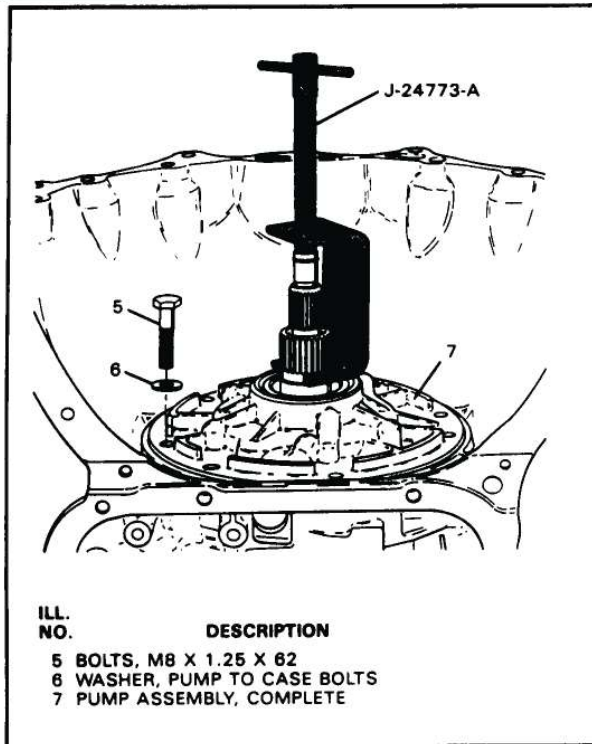

Figure 45
1. Remove the remaining oil pump bolts and the washers, as shown in Figure 45.
2. Install oil pump remover J-24773-A as shown in Figure 45, and remove oil pump assembly.